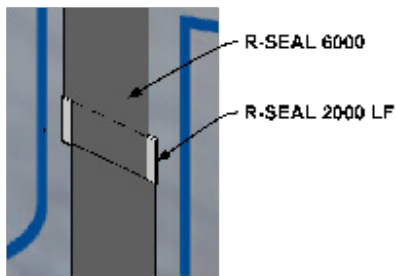

Figure 6
G. Lapping: When two layers of R-SEAL 6000 join, overlap a minimum of 3" and apply sealant along both edges where the overlap occurs. **Reference Figure 6.**